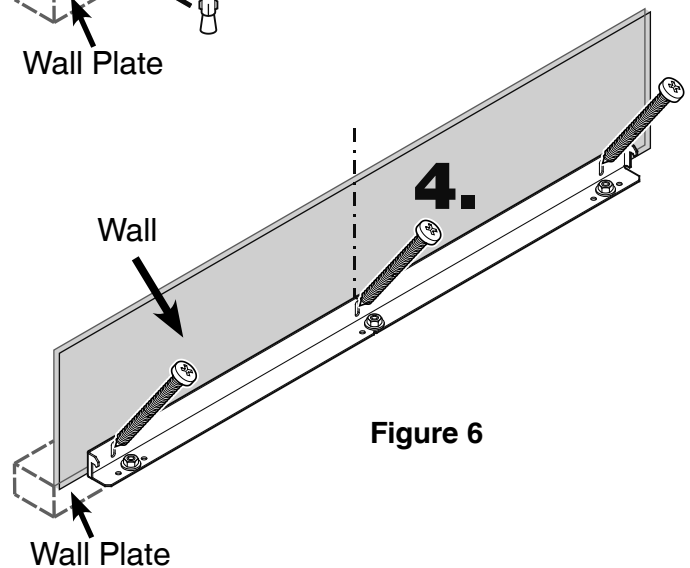

Figure 6
4. Fasten bracket with 3 screws (1/4" x 2-1/8") into the wall plate (Figure 6).